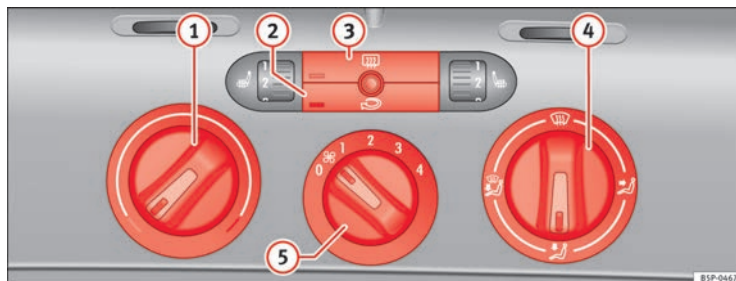

Fig. 125 Heating controls on the dash panel
- Use the knobs ⇒ Fig. 125 ① and ④ and control ⑤ to set the temperature, air distribution and blower speed.
- To switch a function on or off, press the appropriate button ② or ③. When the function is activated, the display window in the lower left of the button is lit.